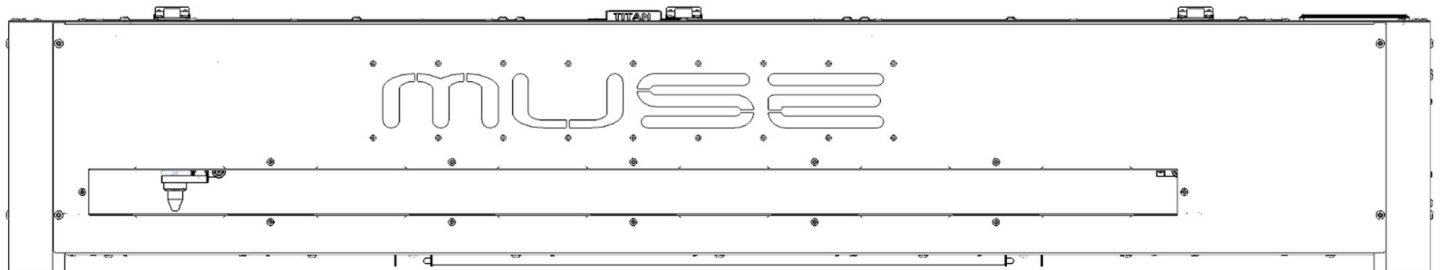

Fig. 24
3. You can now pull the bracket off the machine and use your pass-through (see Fig. 24).